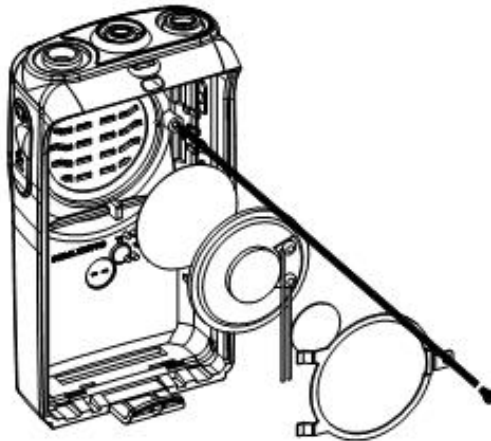

Figure 2-8
1. Place the speaker felt onto the grille area (see “Figure 2-8”).